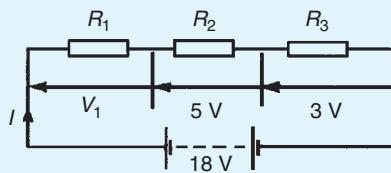

Figure 5.9
2. For the circuit shown in Fig. 5.9, determine the value of V_1 . If the total circuit resistance is 36 Ω determine the supply current and the value of resistors R_1 , R_2 and R_3